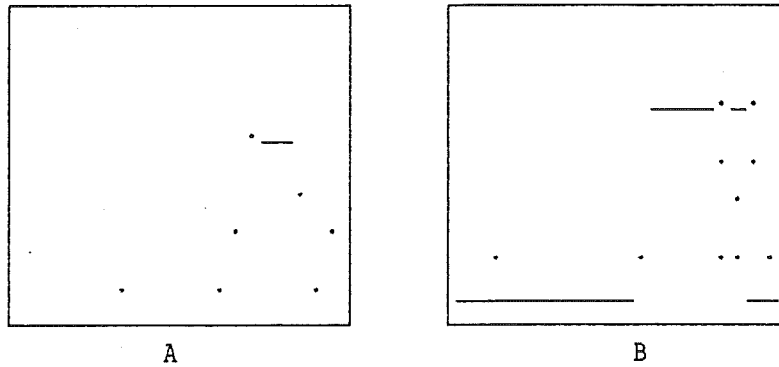

Figure 4
The screen should now appear as shown in Figure 4-A but the dots will be jumping around. The pulse, in the second half of the screen is the bulkhead reflection from ports P1 and P4. Partially pull the jumper from the laser and note the reduced pulse width. The detector is being severely saturated at this point, however there is no danger of damage.
** Change the Sensitivity on the photon counter through HI, MED and LOW. Note the differences. Repeat for different light intensities. (Adjust this by partially pulling and manipulating the Jumper J₁ until the display appears as in Figure 4-B
** Position the bulkhead pulse on the display screen as in Section 4 above and adjust to look like Figure 4-B.